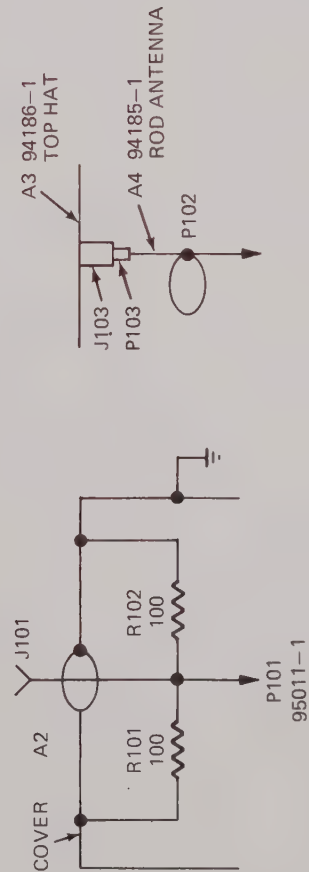

Figure 4-1. Broadband Rod Antenna and Accessories Schematic Diagram
4.2 DETAILED ANALYSIS (Refer to schematic, Figure 4-1)
The reference symbol number for a particular component listed on the parts list also appears on the schematic, Figure 4-1, to assist in locating the component within the unit.
PARTS LIST (Refer to Figure 4-1)